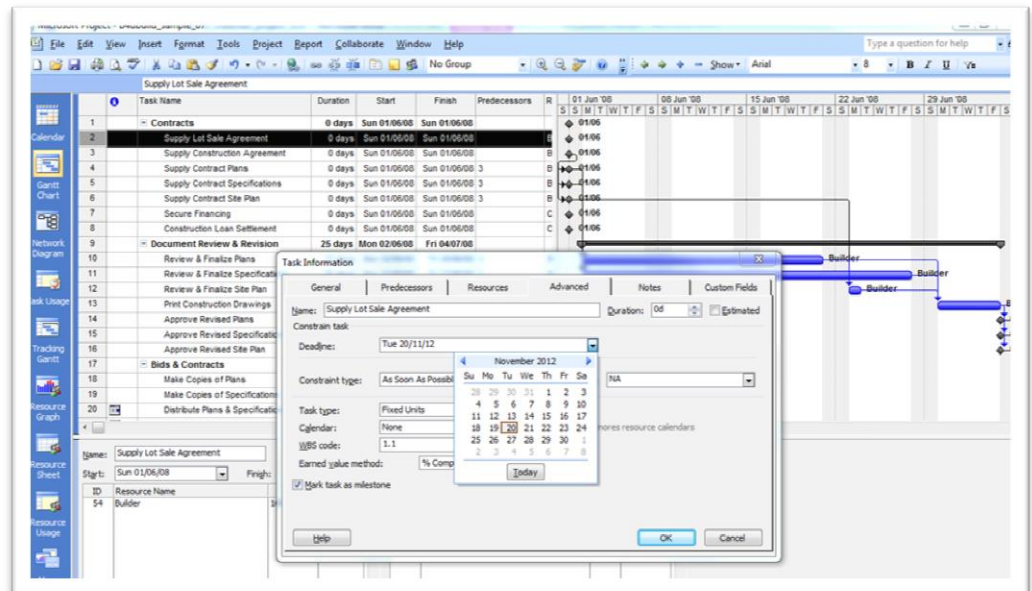

Figure 19
- On the **advanced tab** enter a date in the **Deadline box** → **OK** (see *Figure 19* following).